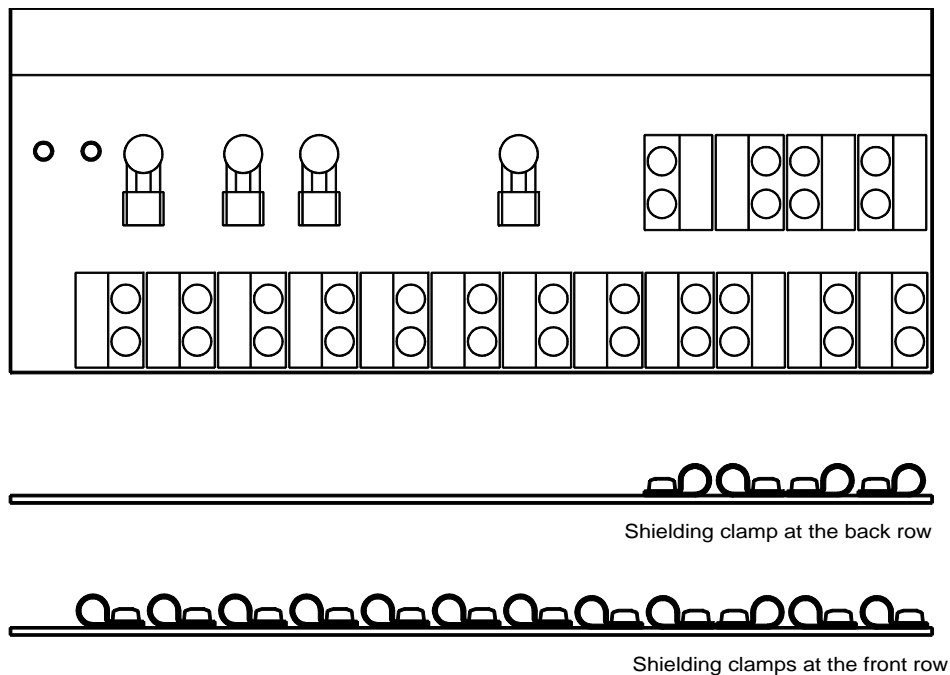

Fig. 21–1 Ground Strip with Shielding Clamps
The Modular Cabinet is provided with a ground strip to connect the CLU or SLU cables to ground (see Fig. 21–1). These ground connections are necessary for EMI suppression reasons.
*The orientation of the shielding clamps shall be according to Fig. 21–1. If the clamp is positioned at the wrong side, remove the clamp and fit it such that it is positioned correctly.*